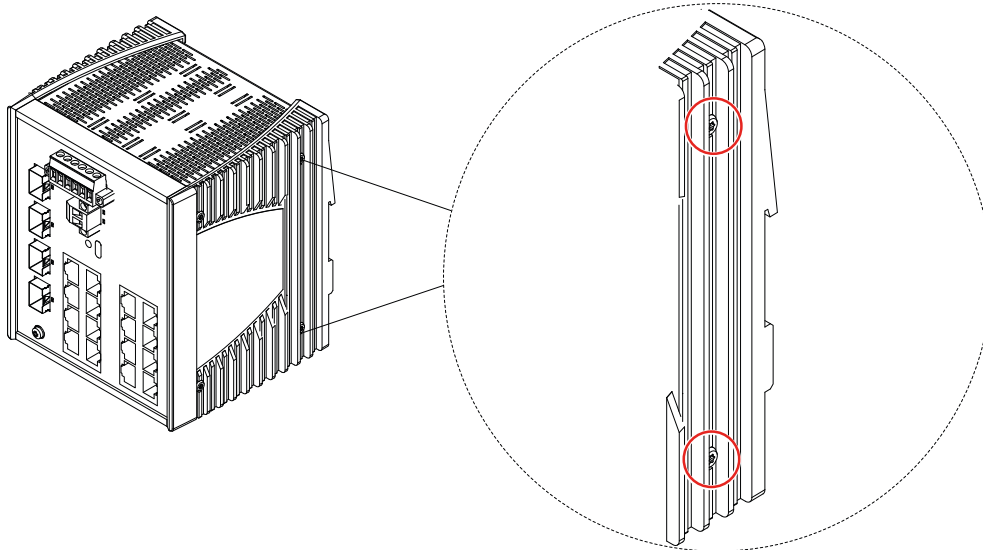

Figure 1: Position of the rear screws on the casing.
- Remove the 2 rear screws from the casing on the left and right side of the device (see figure 1).
Note: If the wall mounting brackets are no longer used, the device casing must be screwed on both sides. For this, use the original casing screws that you removed in the first step of the mounting (see figure 1) or M3x10 screws.